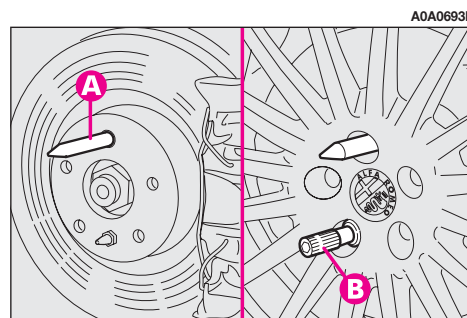

fig. 9
- Tighten the pin (**A-fig. 9**) in one of the fastening bolt holes on the wheel hub.
- Remove the pin (**A-fig. 9**) and tighten the last fastening bolt.